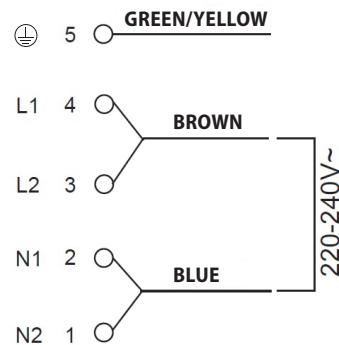
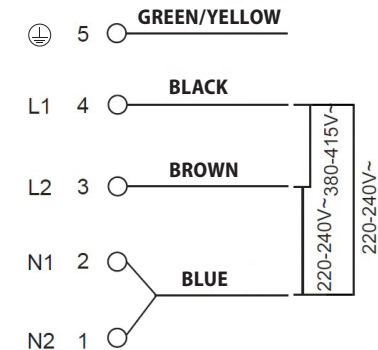

Fig. 11
Fig. 12
- The hob is already supplied with a mains cable. In case it is necessary to replace the mains cable due to damage, Fig. 11 or Fig. 12, shows the wiring of the terminal box.